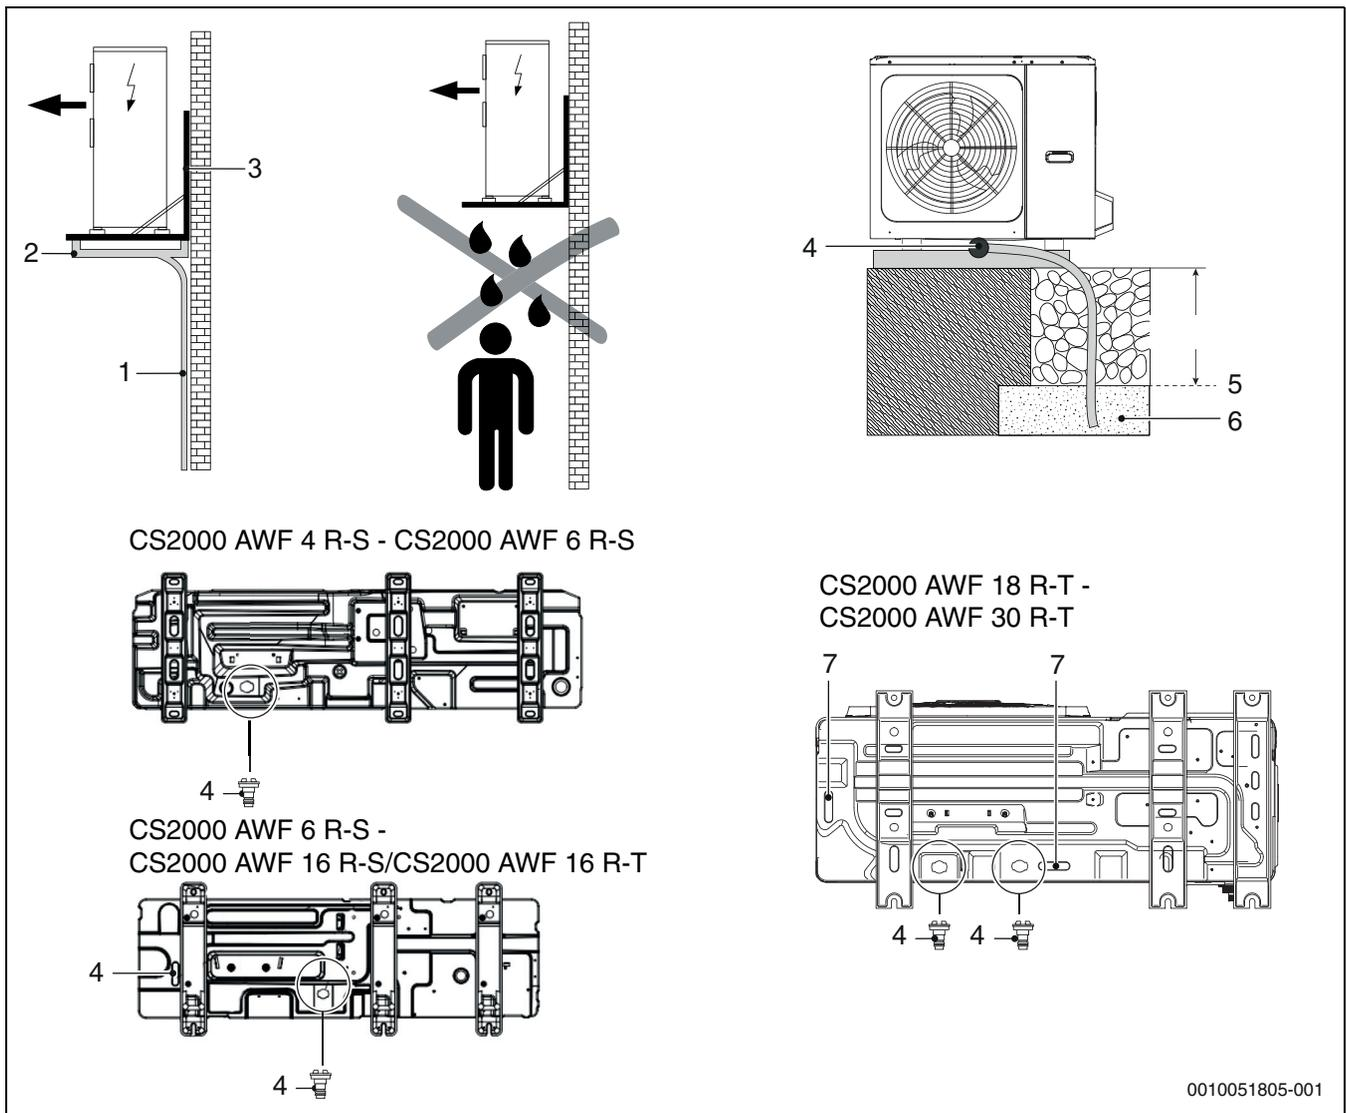

Fig. 48 Condensate drain
- ▶ Install the pipe below the frost line (→ Figure 48, [5]).